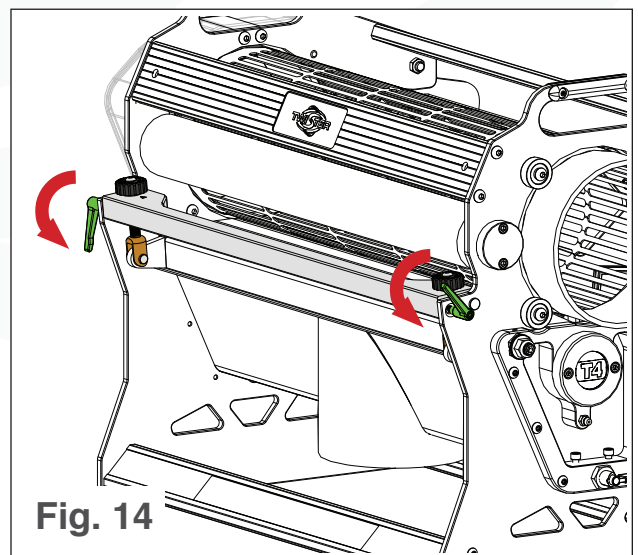

Fig. 14
1. Pull out and rotate the adjustment bar lock knobs so they are facing straight down* (see Fig. 14). This is to prevent them breaking when the T4 is rotated.